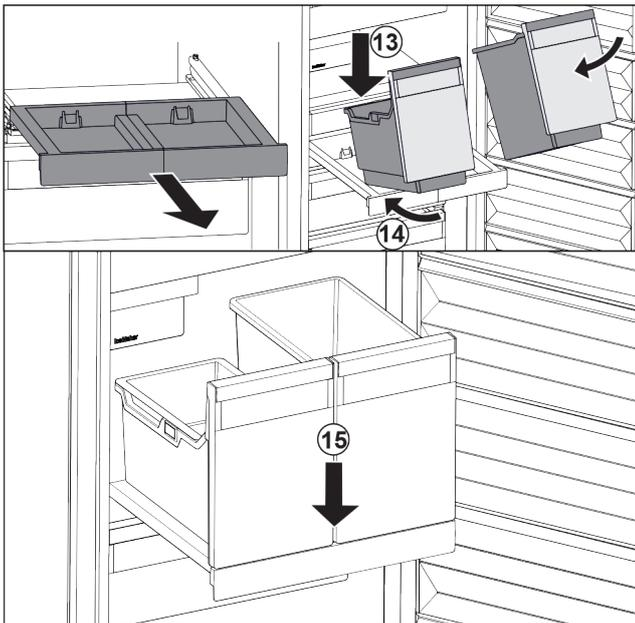

Fig. 24
- ▶ Place the container at an angle on the pull-out board. Fig. 24 (13)
- ▶ Slide the container to the back at an angle. Fig. 24 (14)
- ▶ Place container in the front. Fig. 24 (15)